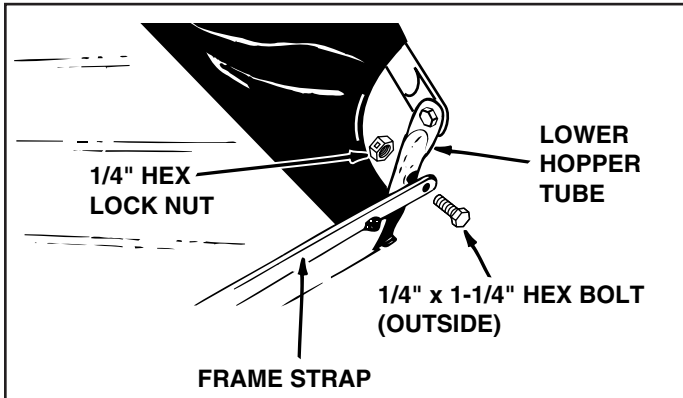

FIGURE 13
- Assemble the frame strap to the lower hopper tube using two 1/4" x 1-1/4" hex bolts and 1/4" hex lock nuts. See figure 13.